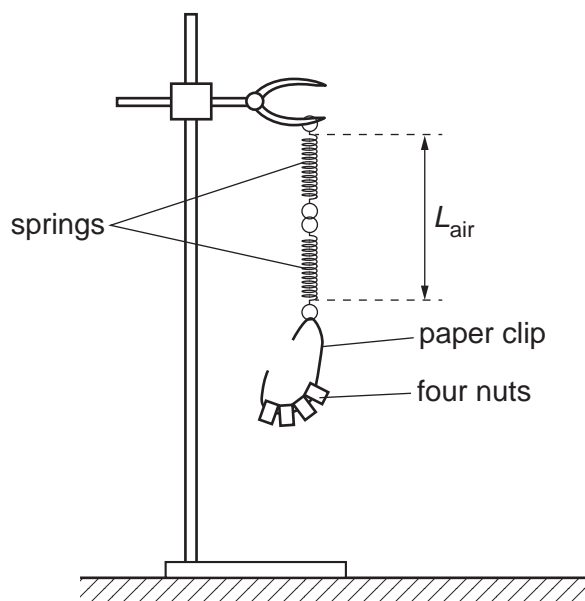

Fig. 2.2
- (ii) • Set up the apparatus using the four **smaller** nuts as shown in Fig. 2.2.